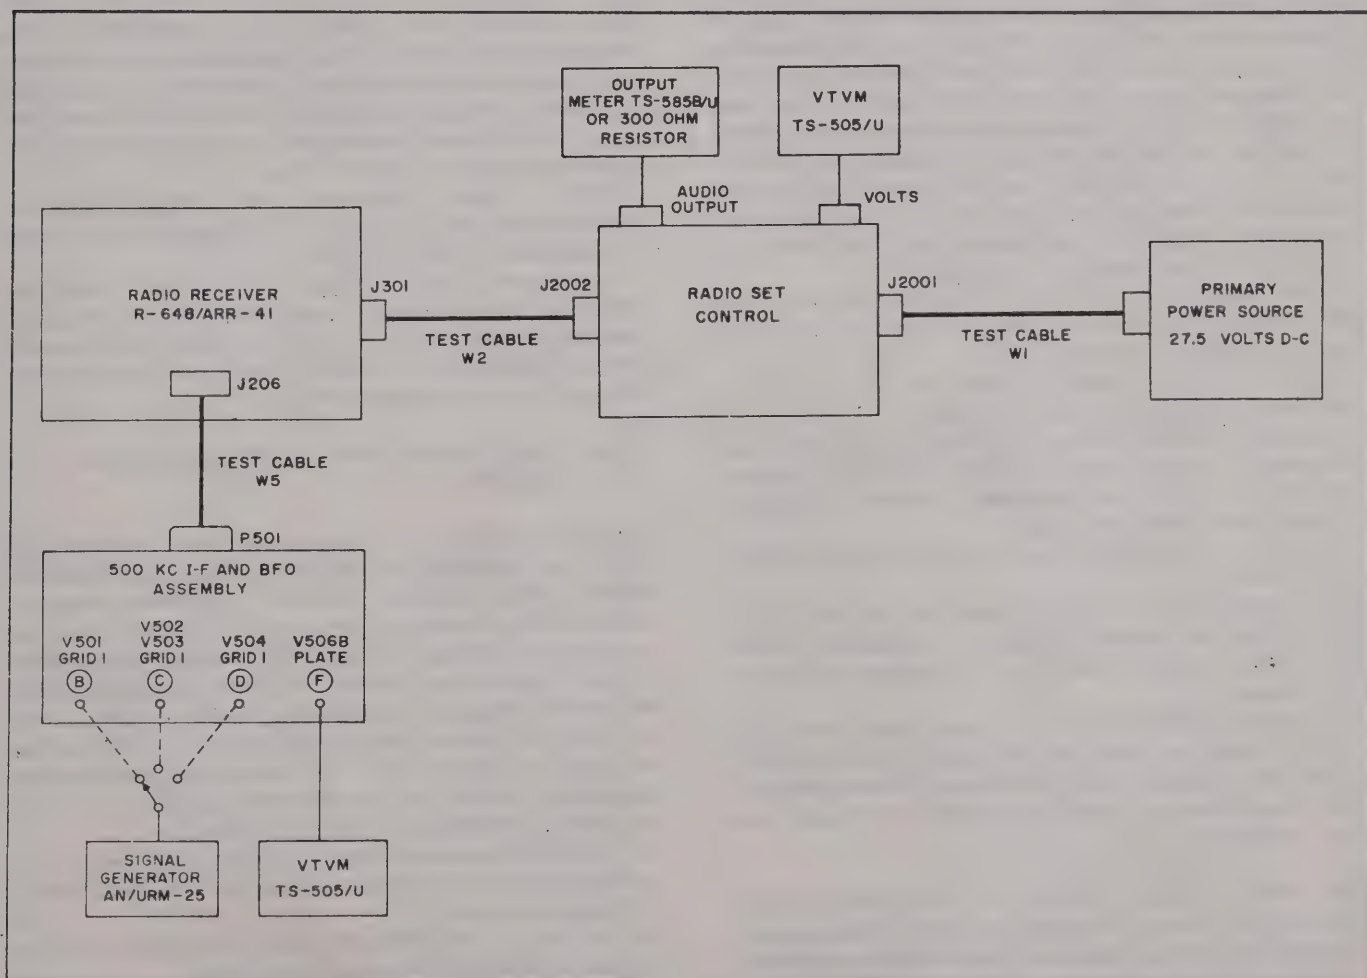

Figure 6-2. Stage Gain, 500-Kc I-F and BFO Assembly, Test Bench Setup
**6-14.** The stage gain tests, paragraphs 6-15 through 6-17, are designed to test the sensitivity and help to isolate trouble within the 500-kc i-f and bfo assembly. These tests should be performed after repair work, as a method of testing sensitivity, and may be used to isolate trouble to a stage or group of stages within the 500-kc i-f and bfo assembly. Refer to figure 6-2 for the test bench setup and to figure 6-17 for the location of test points. The following preparatory operations should be performed for the tests described in paragraphs 6-15 through 6-17: